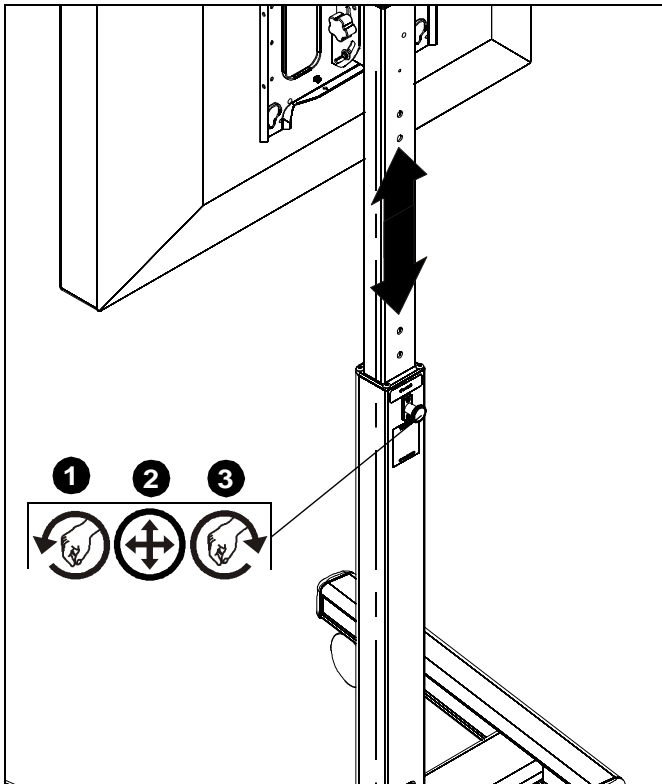

Figure 16
1. Loosen knob on back of column. (See Figure 16)
2. Adjust height to desired level. (See Figure 16)
3. Tighten knob on back of column at corresponding pin hole. (See Figure 16)